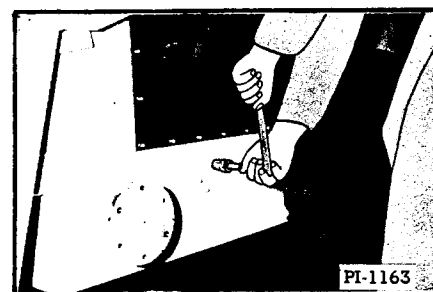

Fig. 65 Loosen the Final Drive Chains
8. Loosen the final drive chains (Figures 65 and 66).